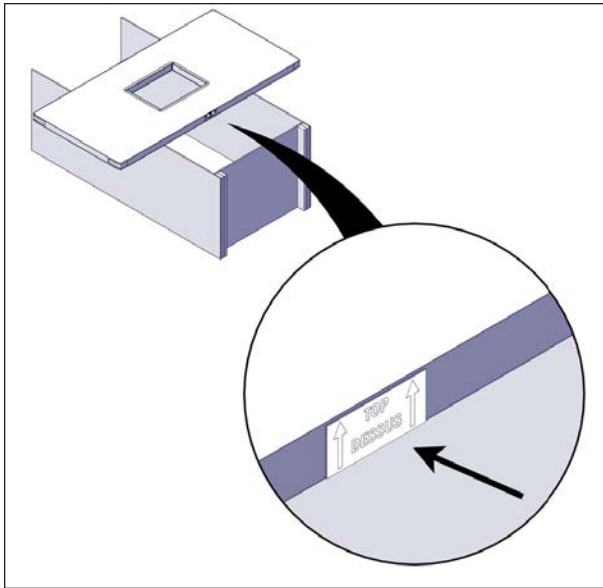

FIGURE 36: PANEL INSTALLATION
2. Install the escape hatch panel (approx. 47" x 96" [119 cm x 244 cm]) onto the middle of the installation surface see Figure 36. Ensure the seal around the escape hatch opening is on the top and TOP/DESSUS label (Figure 36) located in the panel's hole is properly oriented.